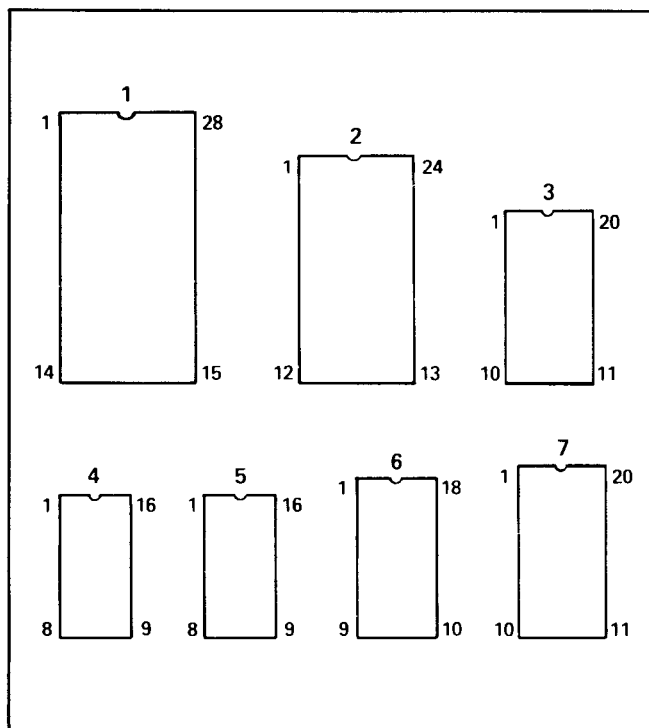
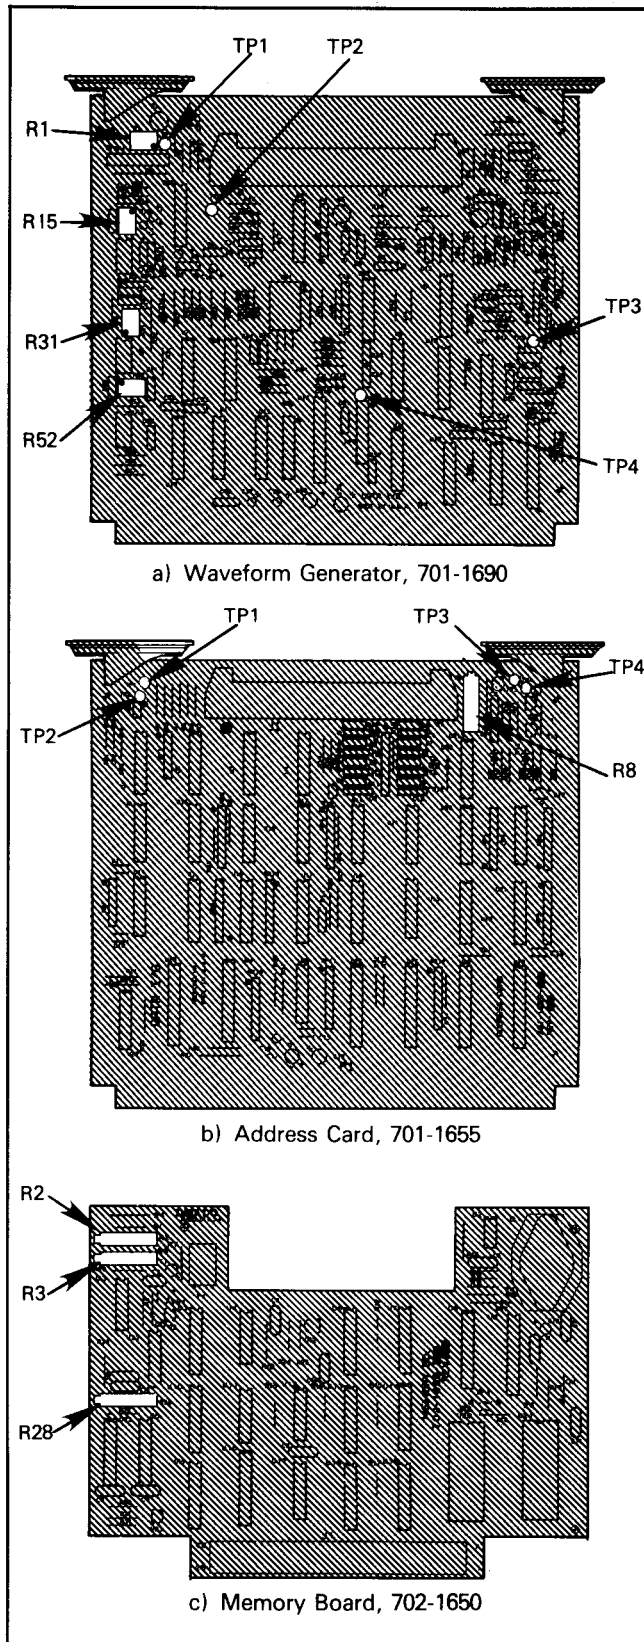

Figure 4-6. Pin Numbers of Device Sockets
Figure 4-7. Adjustment Locations
- Take measurement readings at the device sockets or test points indicated on the measurement chart; figure 4-6 shows the pin numbers for the sockets; figure 4-7 shows test points.
- The adjustment pots on the waveform generator, memory board, and the address card enable you to make adjustments when your measurements do not match the measurement chart; figure 4-7 shows the location of these adjustment points.